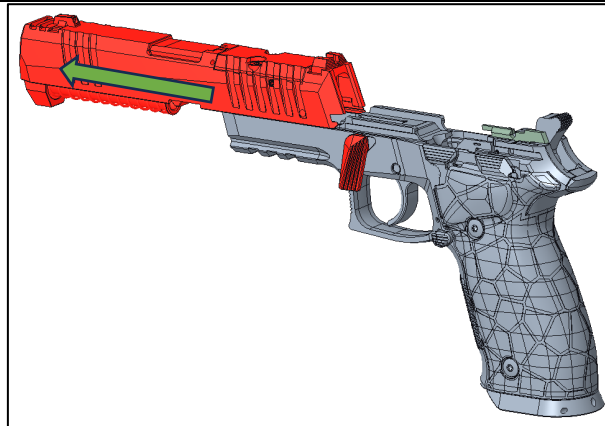

Figure 29: Removing the slide from the frame by sliding it forward.
3. The lever must remain at approximately six o'clock position in order to enable slide removal. Hold the slide and move it forward, removing the slide with the barrel and the recoil spring assembly from the frame (Figure 29).
4. Turn the slide upside down and carefully push the recoil spring guide forward a few millimeters then carefully lift it out of the slide along with the recoil spring - do not let go until the recoil spring is fully extended and clear of the slide (Figure 29).